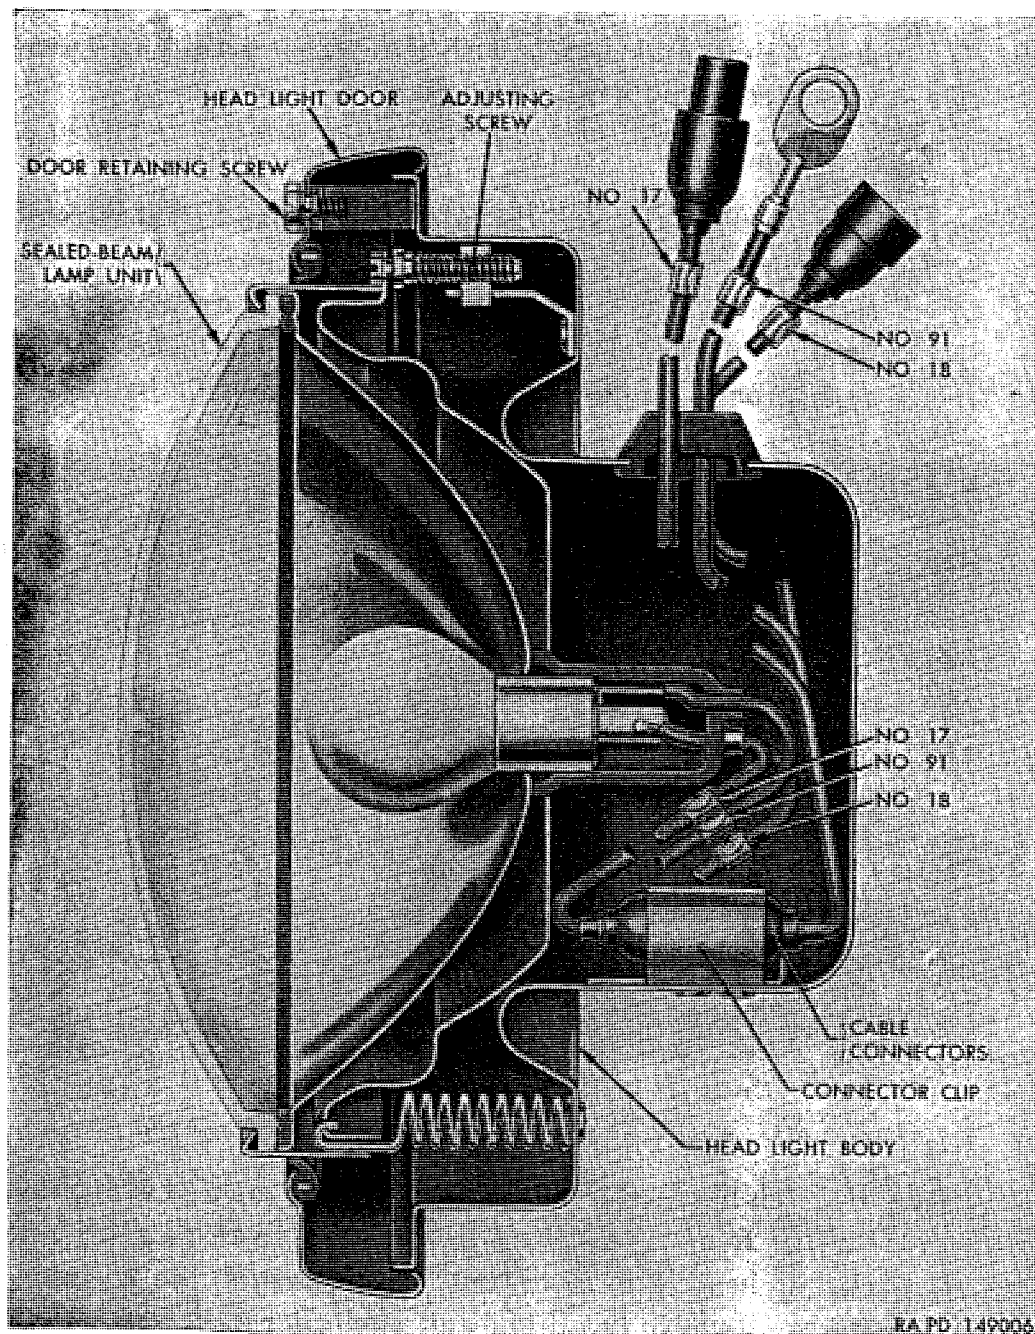

Figure 161. Sectional view of headlight.
b. Sealed-Beam Lamp Unit Replacement (fig. 161).
(1) Removal.